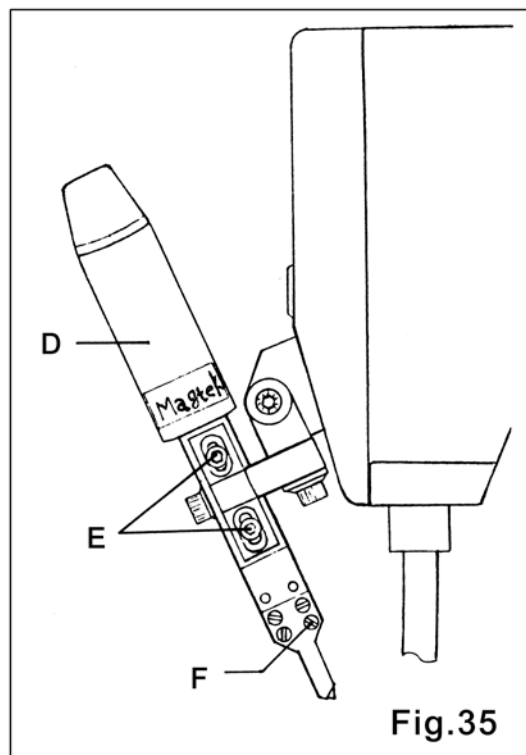

Fig.35
To loose the two screws (E) of Top Trimmer (D) then, to adjust up and down for top trimmer position. (Fig.35)
2. The pressure adjustment of Top Trimmer— The pressure of Top Trimmer Moving & Fixing Knife which be adjusted via micro turn the screw (F) to get the suitable pressure. (Fig.35)